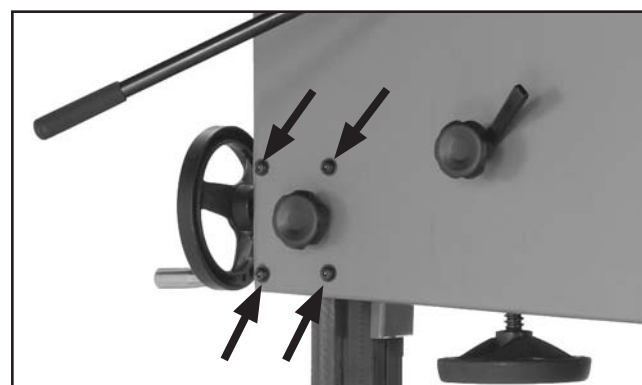
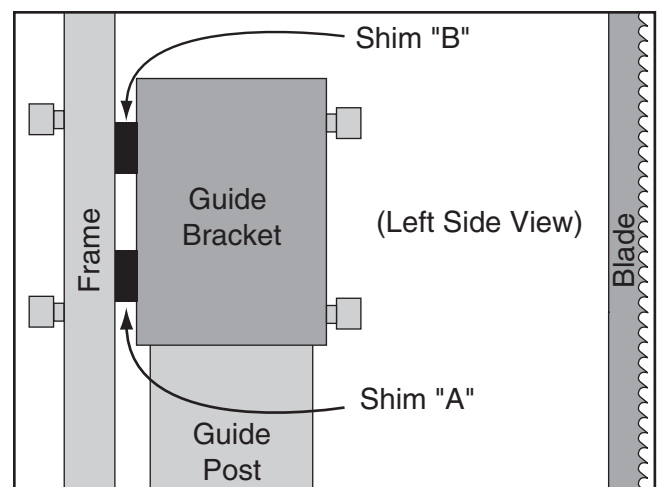

Figure 78. Guide post adjustment screws.
Figure 81. Location for placing shims. (Shim thickness not drawn to scale.)
8. Loosen each of the four screws shown in **Figure 78** ¼ turn.
10. Tighten the screws shown in **Figure 78**, and verify that the guide post stays parallel with the blade along its full path of movement. If necessary, repeat this entire procedure until it is.
9. Loosen the four screws shown in **Figure 78** enough to fit metal shims (wide enough to fit the full width of the guide bracket), between the frame and the guide post bracket (see **Figure 81**).
10. Tighten the four screws shown in **Figure 78**, then repeat **Steps 7–8**.